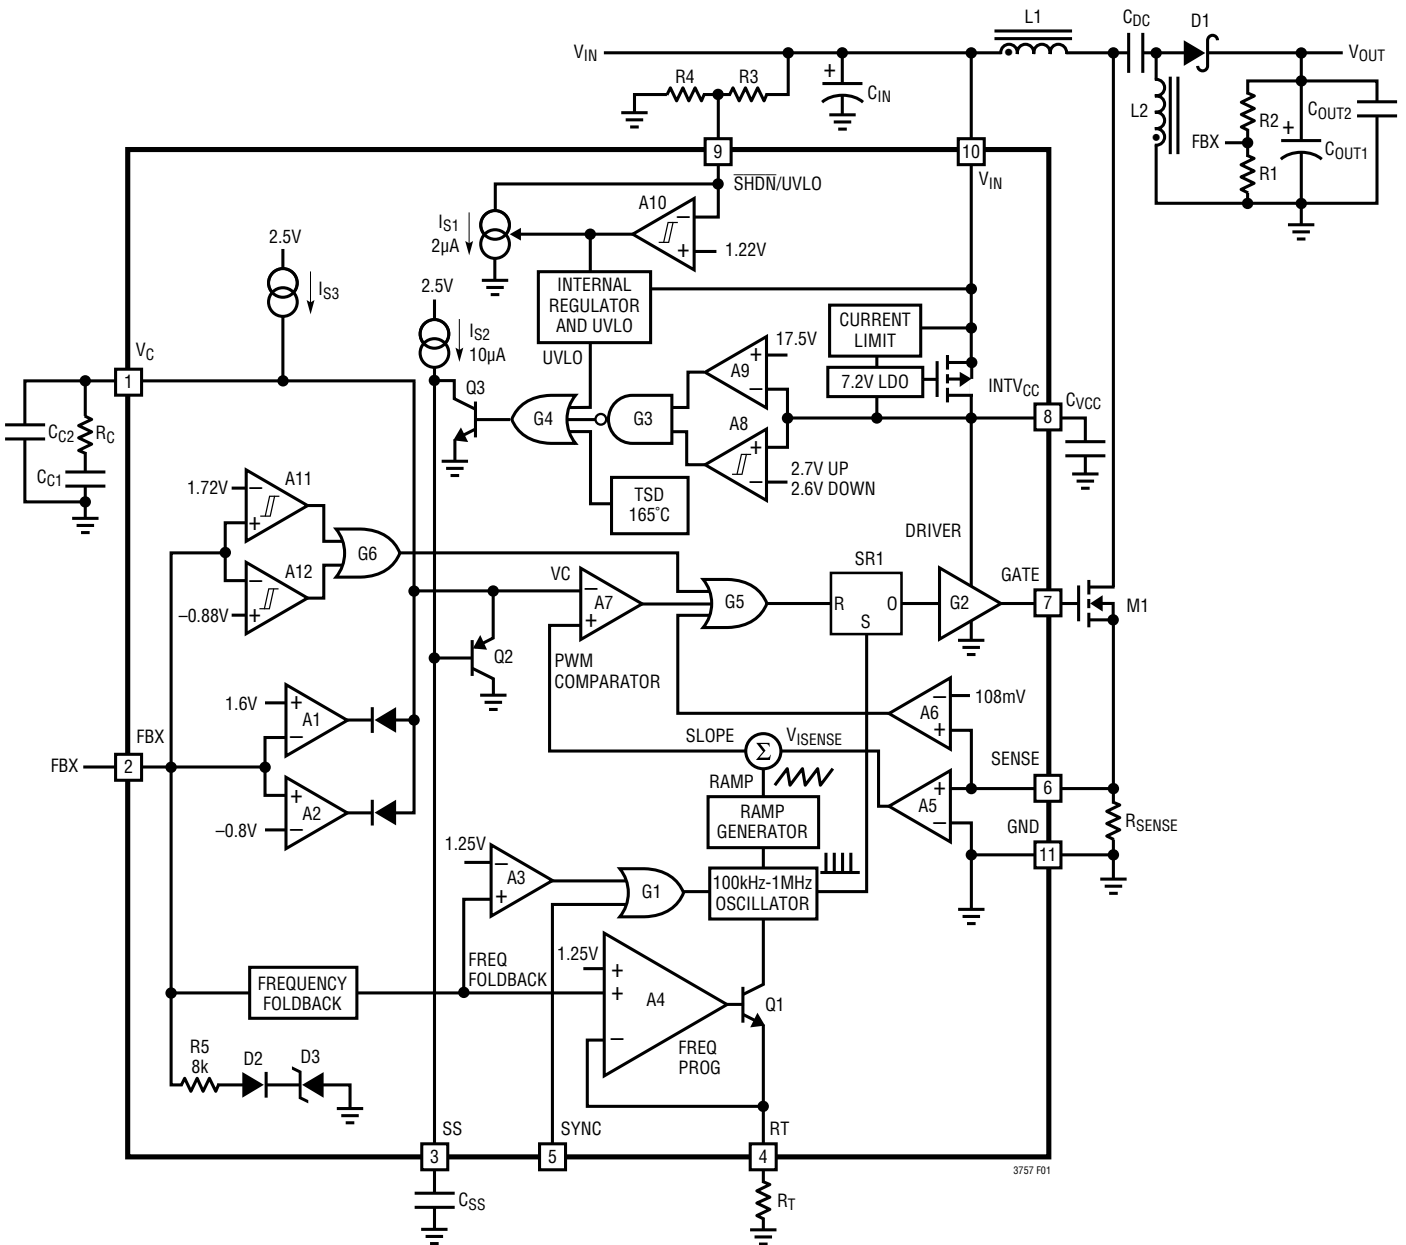

Figure 1. LT3757 Block Diagram Working as a SEPIC Converter
The LT3757 uses a fixed frequency, current mode control scheme to provide excellent line and load regulation. Operation can be best understood by referring to the Block Diagram in Figure 1.
The LT3757 is capable of generating either positive or negative output voltage with a single FBX pin. It can be configured as a boost, flyback or SEPIC converter to generate positive output voltage, or as an inverting converter to generate negative output voltage. When configured as a SEPIC converter, as shown in Figure 1, the FBX pin is pulled up to the internal bias voltage of 1.6V by a voltage divider (R1 and R2) connected from  $V_{OUT}$  to GND. Comparator A2 becomes inactive and comparator A1 performs the inverting amplification from FBX to  $V_C$ . When the LT3757 is in an inverting configuration, the FBX pin is pulled down to  $-0.8V$  by a voltage divider connected from  $V_{OUT}$  to GND. Comparator A1 becomes inactive and comparator A2 performs the noninverting amplification from FBX to  $V_C$ .
The purpose of this current is to allow the user to program the rising hysteresis. The Block Diagram of the comparator and the external resistors is shown in Figure 1. The typical falling threshold voltage and rising threshold voltage can be calculated by the following equations:
An internal, low dropout (LDO) voltage regulator produces the 7.2V INTVCC supply which powers the gate driver, as shown in Figure 1. If a low input voltage operation is expected (e.g., supplying power from a lithium-ion battery or a 3.3V logic supply), low threshold MOSFETs should be used. The LT3757 contains an undervoltage lockout comparator A8 and an overvoltage lockout comparator A9 for the INTVCC supply. The INTVCC undervoltage (UV) threshold is 2.7V (typical), with 100mV hysteresis, to ensure that the MOSFETs have sufficient gate drive voltage before turning on. The logic circuitry within the LT3757 is also powered from the internal INTVCC supply.
The choice of operating frequency may be determined by on-chip power dissipation, otherwise it is a trade-off between efficiency and component size. Low frequency operation improves efficiency by reducing gate drive current and MOSFET and diode switching losses. However, lower frequency operation requires a physically larger inductor. Switching frequency also has implications for loop compensation. The LT3757 uses a constant-frequency architecture that can be programmed over a 100kHz to 1000kHz range with a single external resistor from the  $RT$  pin to ground, as shown in Figure 1. The  $RT$  pin must have an external resistor to GND for proper operation of the LT3757. A table for selecting the value of  $R_T$  for a given operating frequency is shown in Table 1.
The output voltage ( $V_{OUT}$ ) is set by a resistor divider, as shown in Figure 1. The positive and negative  $V_{OUT}$  are set by the following equations:
In the applications where  $V_{OUT}$  is pulled up by an external positive power supply, the FBX pin is also pulled up through the R2 and R1 network. Make sure the FBX does not exceed its absolute maximum rating (6V). The R5, D2, and D3 in Figure 1 provide a resistive clamp in the positive direction. To ensure FBX is lower than 6V, choose sufficiently large R1 and R2 to meet the following condition:
The LT3757 addresses this mechanism with the SS pin. As shown in Figure 1, the SS pin reduces the power MOSFET current by pulling down the  $V_C$  pin through Q2. In this way the SS allows the output capacitor to charge gradually toward its final value while limiting the start-up peak currents. The typical start-up waveforms are shown in the Typical Performance Characteristics section. The inductor current  $I_L$  slewing rate is limited by the soft-start function.
The optimum values depend on the converter topology, the component values and the operating conditions (including the input voltage, load current, etc.). To compensate the feedback loop of the LT3757/LT3757A, a series resistor-capacitor network is usually connected from the  $V_C$  pin to GND. Figure 1 shows the typical  $V_C$  compensation network. For most applications, the capacitor should be in the range of 470pF to 22nF, and the resistor should be in the range of 5k to 50k. A small capacitor is often connected in parallel with the RC compensation network to attenuate the  $V_C$  voltage ripple induced from the output voltage ripple through the internal error amplifier. The parallel capacitor usually ranges in value from 10pF to 100pF. A practical approach to design the compensation network is to start with one of the circuits in this data sheet that is similar to your application, and tune the compensation network to optimize the performance. Stability should then be checked across all operating conditions, including load current, input voltage and temperature.